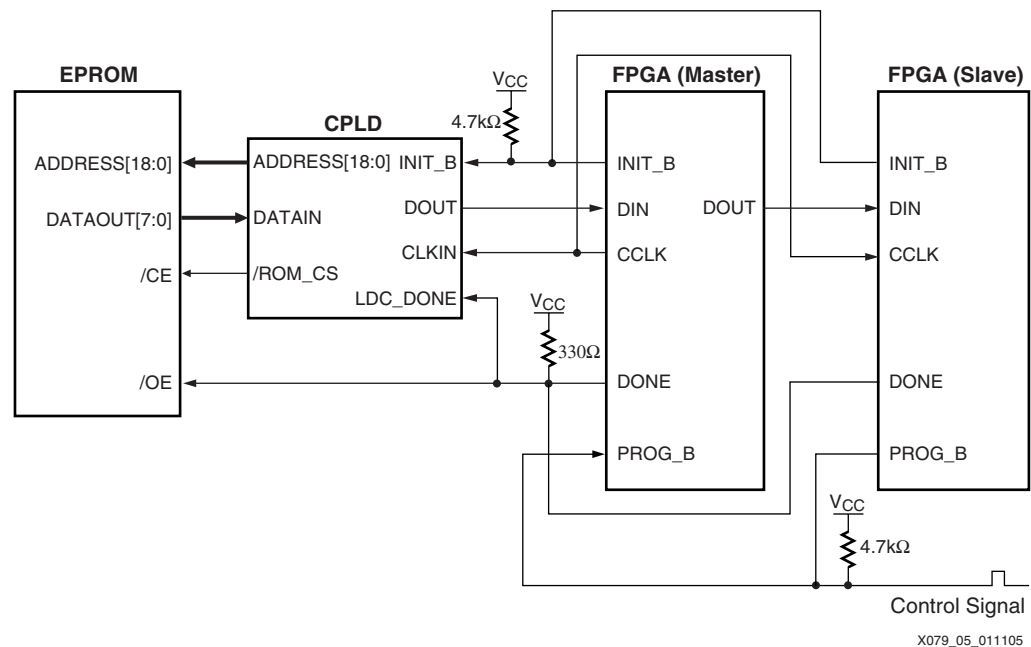

Figure 4-6: Configuring Virtex-II Pro Devices Using a CPLD and Parallel PROM
- [XAPP079](http://www.xilinx.com/bvdocs/appnotes/xapp079.pdf), *Configuring Xilinx FPGAs Using an XC9500 CPLD and Parallel PROM* (www.xilinx.com/bvdocs/appnotes/xapp079.pdf) describes an architecture that configures a chain of Virtex-II Pro devices using Master-Serial mode. See Figure 4-6 for an example of FPGA configuration using a CPLD and a parallel PROM.